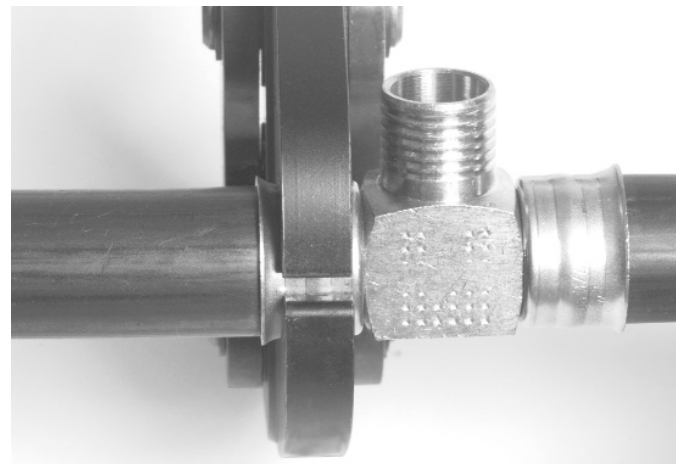

Figure 2 – Placing Jaw Squarely Onto PureFlow® Fitting
5. Place open jaw around the fitting. Make sure the raised lip of the stainless steel sleeve is properly aligned with the jaw (*Figure 2*).
6. Make sure the jaw is square to the tubing (*Figure 2*) and depress tool trigger. The press cycle takes about six (6) seconds. Once a press cycle begins and the rollers contact the jaw arms, the tool will lock-on and automatically complete the press cycle. Releasing the trigger will not stop the tool once the pressing process has begun. This assures consistent, repeatable pressed connection integrity.